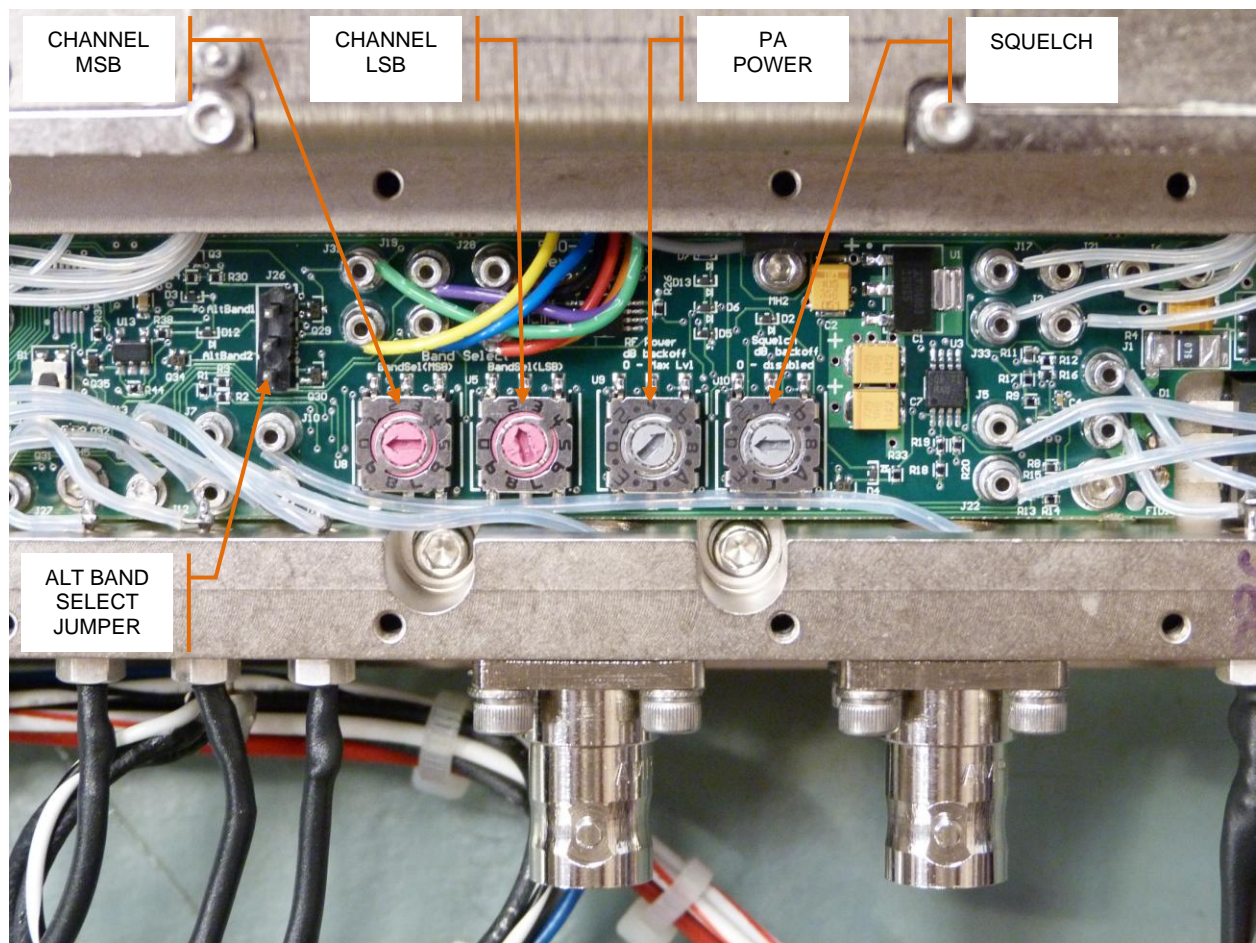

Figure 22 Configuration Switches and Jumper
4. Identify the configuration switches. See Figure 22.